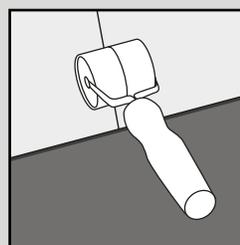

Fig. 4
5. Continue to fit planks across the room until the row is complete. Only if really necessary, use a rubber mallet and an off-cut of the product or a hand roller to securely fix the planks together (Fig. 4). A pull bar can be used to pull the product together around the edges of the room (Fig. 5).